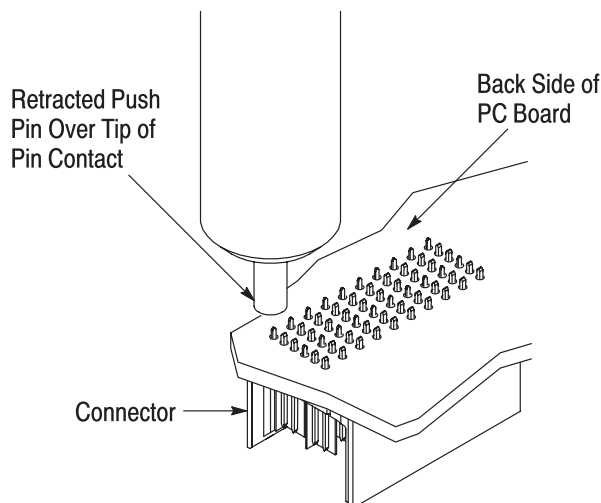

Figure 5
3. Place the spring-loaded tip over the tip of the pin contact. See Figure 5.